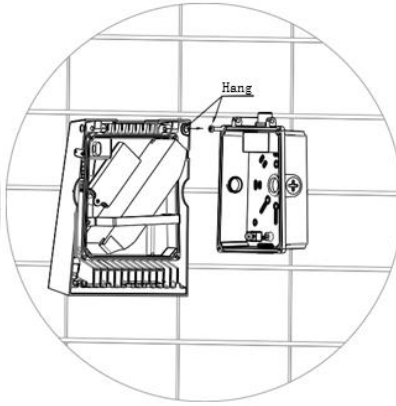

Fig. 2
3. Hang the light body on the bolt of the housing to make convenient for single electrical wire connection (Fig. 2)